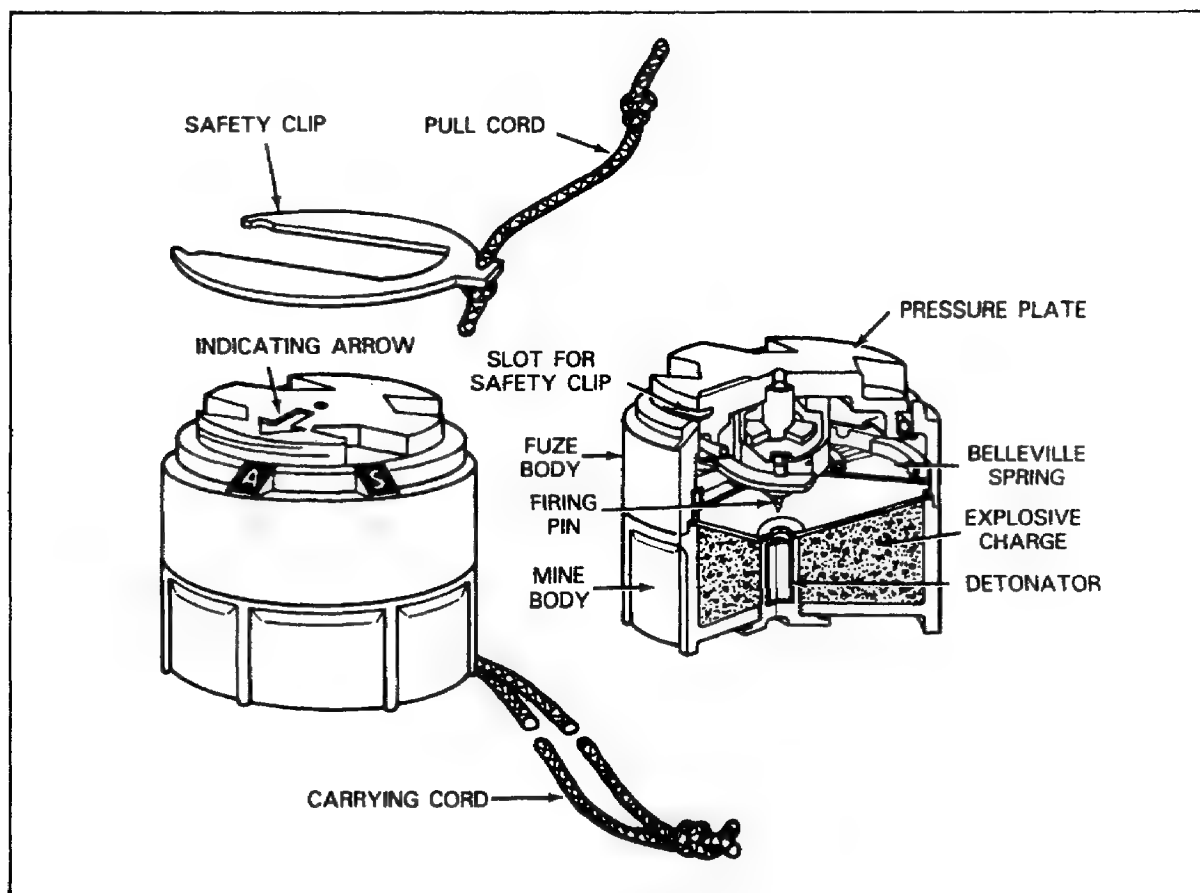

Figure 52. Mine, Antipersonnel, Nonmetallic, M14.
**Mine, Antipersonnel, Nonmetallic, M14.** The M14 mine (Figure 52) is comparatively small. It is less than 2 1/2 inches in diameter and weighs only 3 1/3 ounces. The letters S and A on the fuze body indicate the Safe and Armed positions of the pressure plate. All mines have three safety measures. On the M14 antipersonnel mine: (1) The pressure plate must be set on A before the mine can function. (2) A metal safety clip must be removed before the mine can be set on A. (3) The detonator assembly is packed in separate pieces within the same shipping container and is only installed immediately before use.